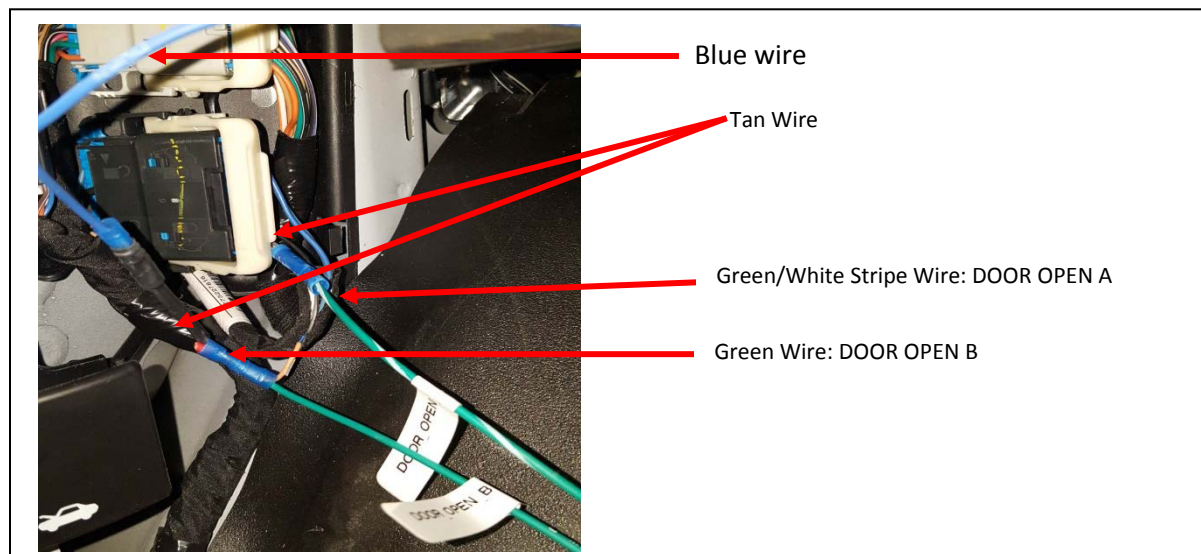

Figure 5, Locations of chassis wiring connections
9. Cut the tan wire that comes from the connector shown in **Figure 5** on the chassis and butt-splice that tan wire to the green/white stripe wire labeled DOOR OPEN A.